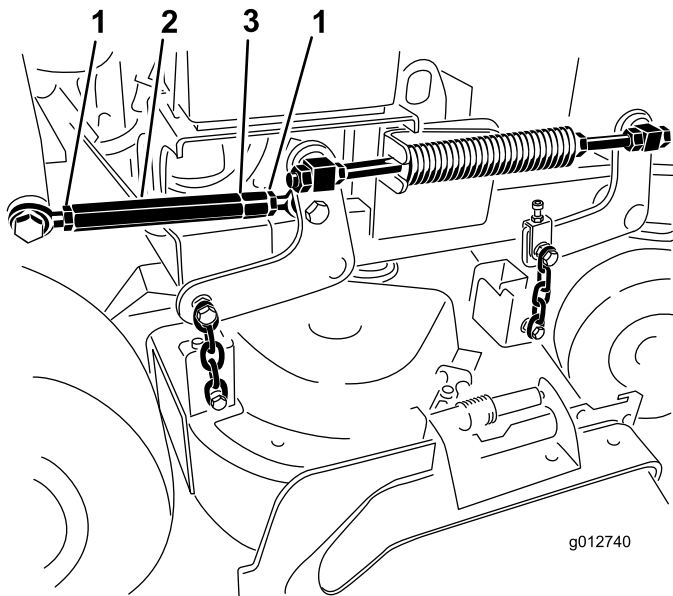

Figure 87
7. Loosen the jam nuts at both ends of the turnbuckle (Figure 87).
Note: The end of the turnbuckle with the groove machined in it has left hand threads (Figure 87).